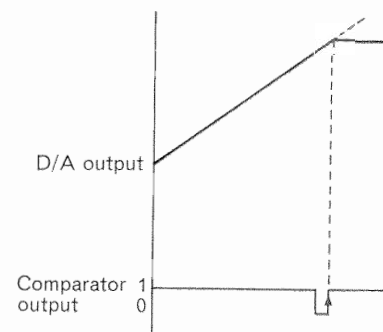

Fig. 18
5-bit data is supplied to IC501R to form a programmable comparison voltage to PLAY input signal of comparator (IC801), and D/A converted DC output is supplied to the comparator through terminal ⑭. The comparison output between PLAY input and D/A is read every time the 5-bit data increases by 1 step. Data is added until both input voltages shown in Fig. 18 coincide, the comparison output is set to Lo potential and then reaches Hi potential again.